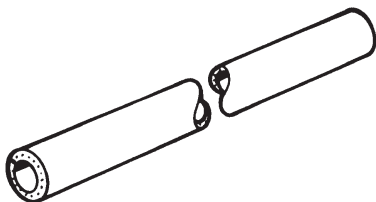

FIGURE 19
- ▶ To assure proper performance of an A-101/LT-A-101 system, the hose used must meet SAE 100 R5 or 100 R1 (minimum) hose specification. For underground mining applications, the hose must also be accepted by MSHA as flame resistant and marked as follows “Flame-Resistant, USMSHA No. _____” at intervals not exceeding 3 ft. (.9 m). Letters and numbers must be at least 1/4 in. (.6 cm) high and comply all other SAE requirements including an operating temperature of -65 °F to +250 °F (-54 °C to 121 °C). (*This number is assigned to the manufacturer after samples have passed the required tests. The number will be different for each manufacturer.) See Figure 19.